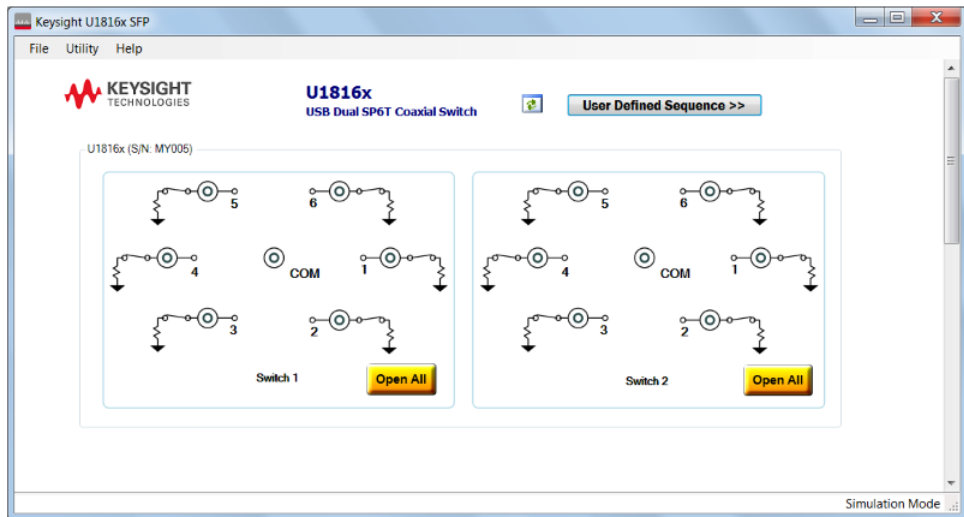
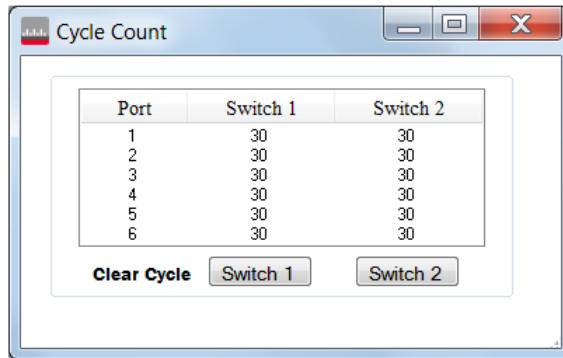
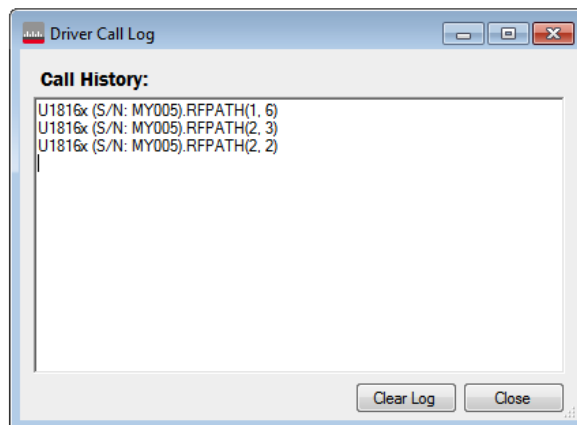

Figure 4-4 U1816A/C main SFP interface
Figure 4-6 Cycle Count window
Figure 4-7 Driver Call Log window
-- On the U1816A/C main SFP interface as shown in **Figure 4-4**, click any port of 1 to 6 to make a connection with the common (COM) port. To disconnect all ports, click **Open All**.
- On the main SFP interface as shown in **Figure 4-4**, click **Utility > Cycle Count** from the menu bar to open the Cycle Count window as shown in **Figure 4-6**.
- On the main SFP interface as shown in **Figure 4-4**, click **Utility > Reset** from the menu bar to reset all U1816A/C switch ports to the open state.
- On the main SFP interface as shown in **Figure 4-4**, click **Utility > Driver Call Log** from the menu bar to open the Driver Call Log window as shown in **Figure 4-7**.